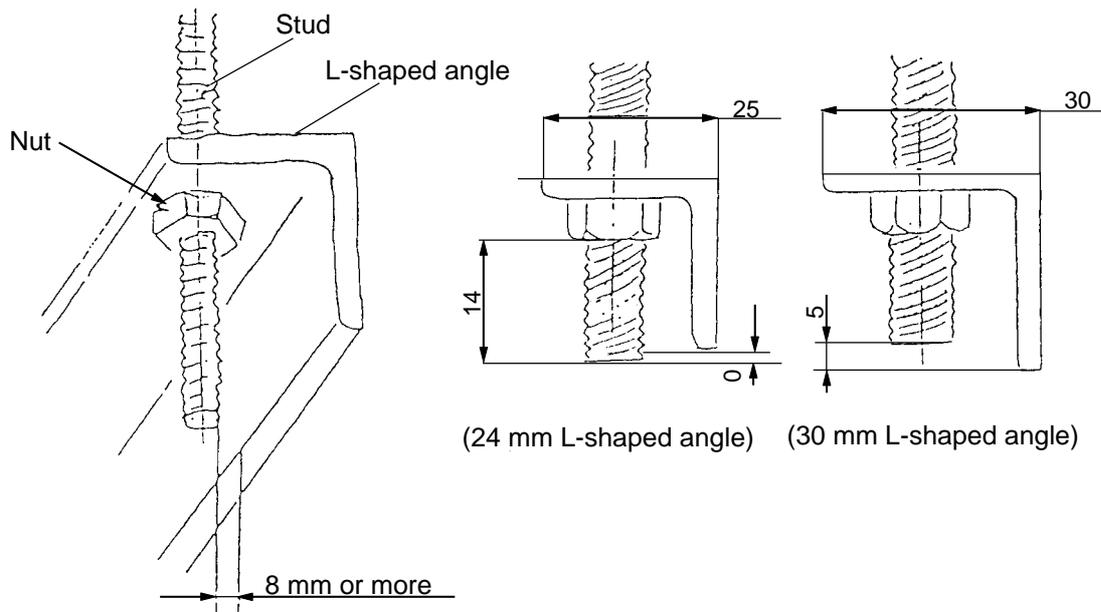

Fig. 14
- (13) Care should be exercised when performing cutting in narrow places.
For example, in building construction work, studs that are used to hang ducts are often fitted with L-shaped angles. Instruct the customers to ensure that there is a clearance of at least 8 mm between the stud and the angle when 25 mm or 30 mm L-shaped angles are used, as illustrated in Fig. 14, before starting the cutting operation. If the clearance is less than 8 mm, Bracket (A) will come in contact with the side surface of the angle, preventing proper engagement of the threads of the cutters and the threads of the stud, and causing damage to the threads of the stud and/or the cutter blade.
Also, since the minimum cutting length of a stud is 14 mm from the surface of the nut, the stud can be cut off at a point 5 mm within the tip of the angle in the case of a 30 mm L-shaped angle, and approximately even with the tip of the angle in the case of a 25 mm L-shaped angle, as illustrated in Fig. 14. If cutting is attempted shorter than indicated, Bracket (A) will come in contact with the nut, causing possible damage to the cutter. Accordingly, particular caution is necessary.